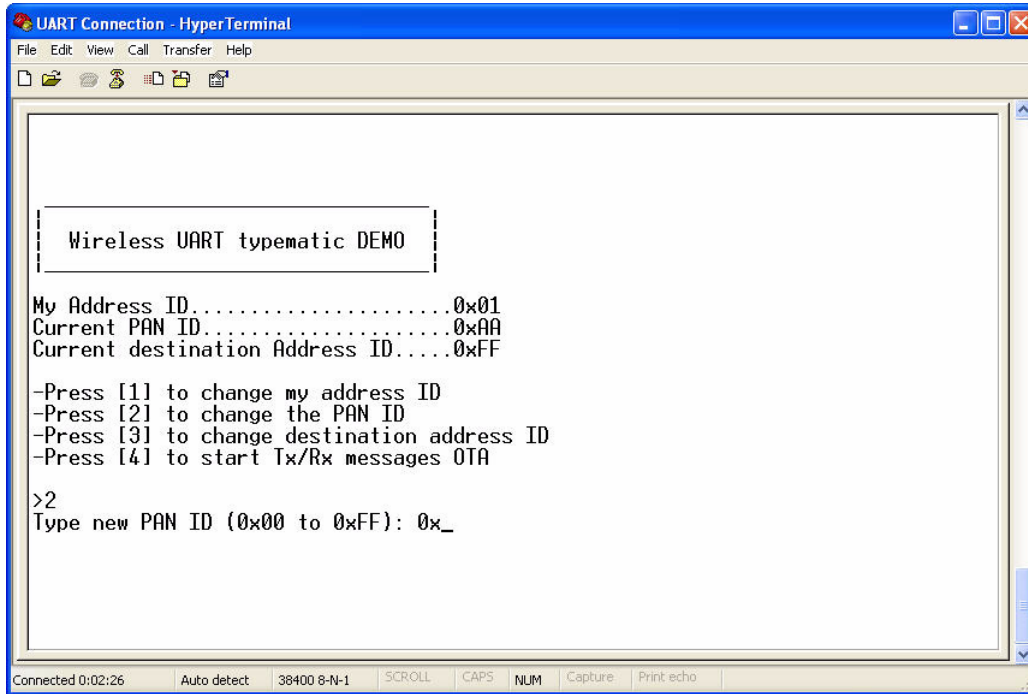

Figure 2-3. PAN ID String
- To change the PAN ID value, press "2" from the main menu screen and the PAN ID string appears as shown in Figure 2-3.